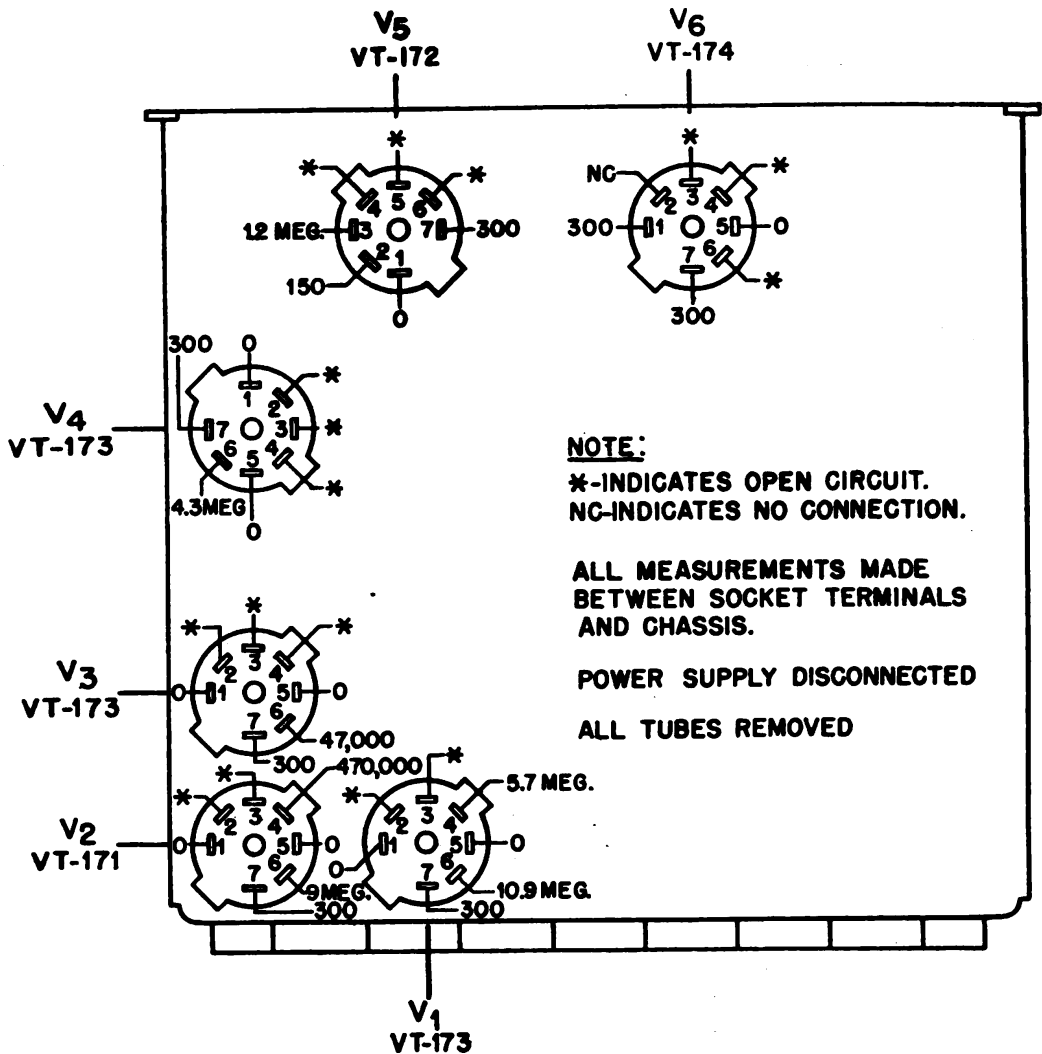

FIGURE 20—RADIO RECEIVER BC-728-A, SOCKET TERMINAL RESISTANCE VALUES
a. Normal resistance values obtained by point to point measurements on Radio Receiver BC-728-A in a satisfactory condition are indicated in the following charts. Use of this data in connection with similar measurements on faulty equipment, combined with a logical circuit analysis, will frequently disclose the source of trouble in an improper operating or dead receiver. Take the readings under the following conditions, and these must be reproduced exactly if comparison measurements on a faulty unit are to be effected. See Figure 20 for socket terminal resistance values.
(2) Remove cover from receiver chassis to make socket terminals accessible.
(3) Disconnect the speaker-connector plug from the speaker-connector receptacle.
(4) Turn switch to "OFF" position and remove power plug connector from power supply receptacle. Disconnect battery leads from Battery BB-54-A.
(5) Make certain that the headset plug is not inserted in the jack.
(6) All readings can be taken on the volt ohmmeter unit of Signal Corps Test Set I-56-(*). The meter scale used should be the one giving the greatest usable deflection.